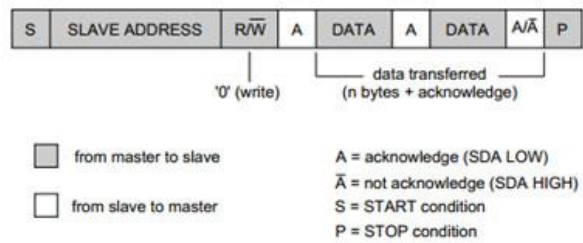

Figure 5: A master-transmitter addressing a slave receiver with a 7-bit address (the transfer direction is not changed)
- Master-transmitter transmits to slave-receiver. The transfer direction is not changed (see Figure 5). The slave receiver acknowledges each byte.